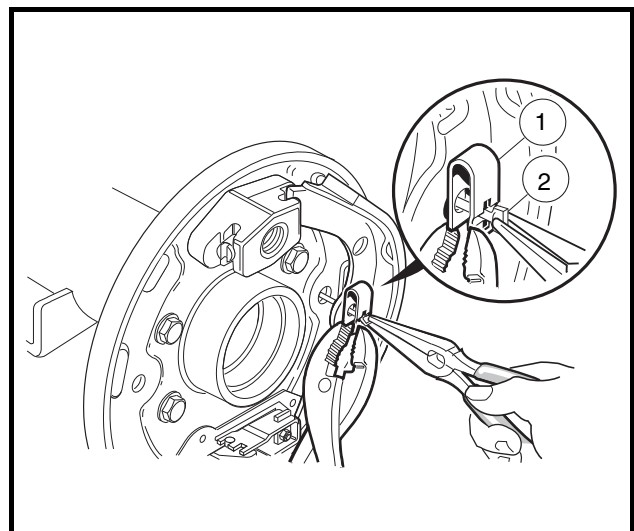

Figure 6-24 Retainer Clip
2. Install shoe retainer clip (1), using pliers to compress clip while turning clip retainer pin (2) into position (**Figure 6-24, Page 6-11**).